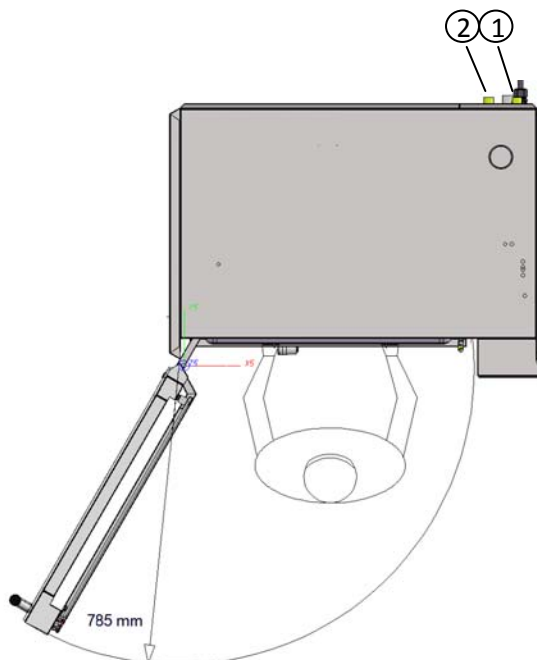

Figure 4
- A water connection with an aerated valve with a $\frac{3}{4}$ inch thread connection must be available near the unit. The water pressure must be between 200 en 500 kPa (2 and 5 bar). Use connection ① for filtered water and connection ② for non filtered water (see Figure 4). Refer also to the Installation Manual.